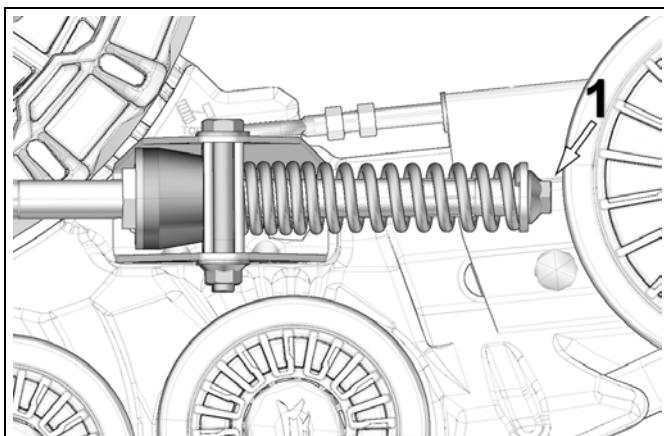

Figure 4
- Verify that spring assembly bolt (1) is tightened to the recommended torque [40 N•m] and that stabilizing arm components are installed in the correct order. See Figure 4.